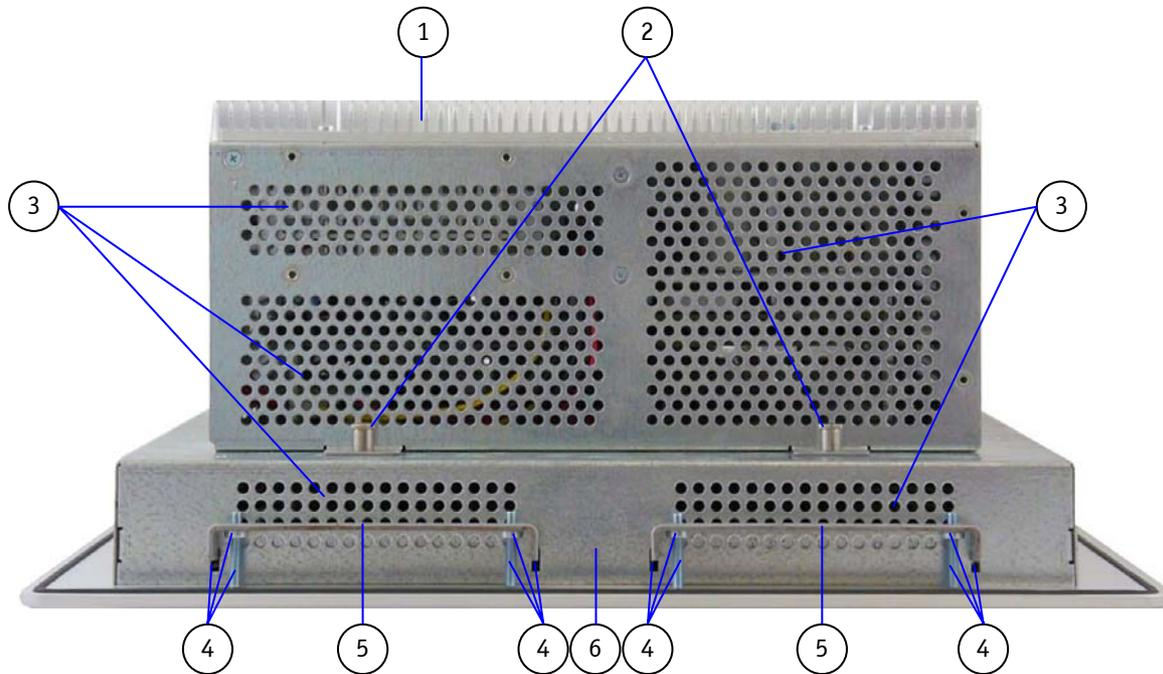

Fig. 15: Top side (shown as a V Panel Express 121 system)
- at the top and bottom side: with two mounting clamps on each side (Fig. 15, pos. 5) and
- at the top and bottom side: with two mounting clamps on each side (Fig. 15, pos 5) and